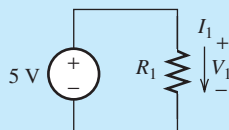
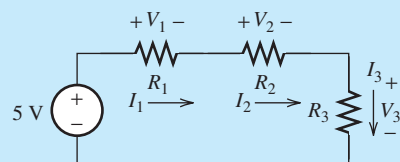
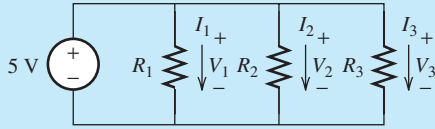

FIGURE 3.15 The basic electric circuit for Example 3.4.
FIGURE 3.16 The circuit wired in series.
FIGURE 3.17 The circuit wired in parallel.
Figure 3.15 shows a basic electric circuit with a power supply driving a single load. Two configurations are provided for study, series (Figure 3.16) and parallel (Figure 3.17). Assuming that $R_1 = 10\ \Omega$, $R_2 = 20\ \Omega$, and $R_3 = 30\ \Omega$:
- Using the circuit in Figure 3.15, find V_1 and I_1 .
- For the circuit in Figure 3.16, find V_1 , I_1 , V_2 , I_2 , V_3 , and I_3 .
- For the circuit in Figure 3.17, find V_1 , I_1 , V_2 , I_2 , V_3 , and I_3 .